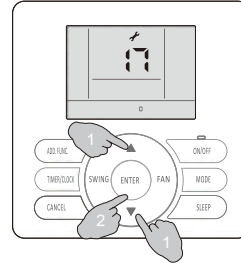

fig.5
2. Press  or , and the parameter code increases or decreases by 1 accordingly. When 17 displays, press ENTER button to rewrite EE parameter of the indoor unit, at the same time, the symbol  lights and EE parameter code 00 blinks.(see fig.5)